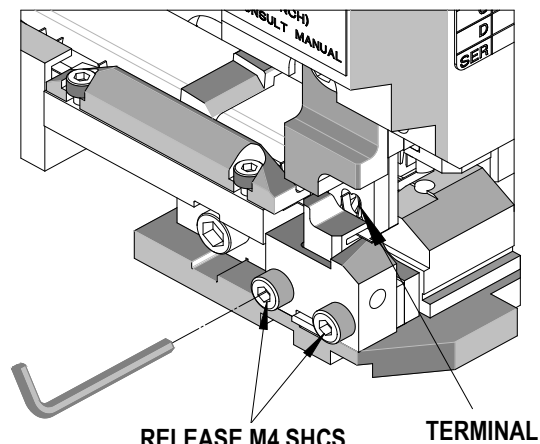

Figure 2-4
2. With a terminal in position over the anvils, slightly release anvil mounting screw. See Figure 2-4.